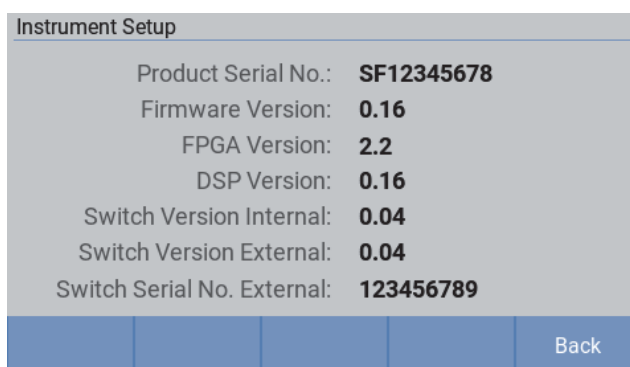

Figure 38. Device Info. screen
2. Press **F4** (Edit) on the front panel. The **Device Info.** screen is shown as Figure 38.